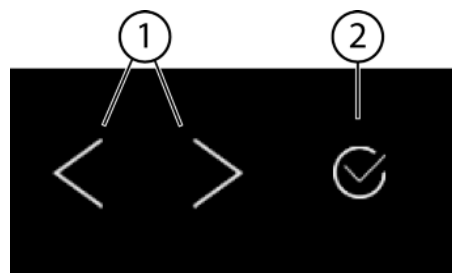
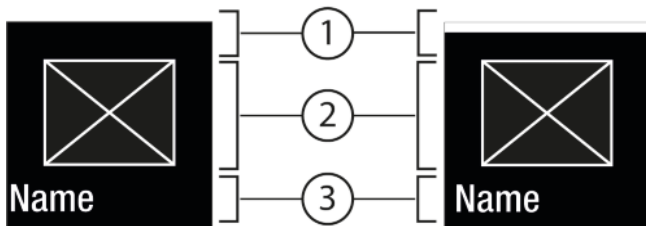
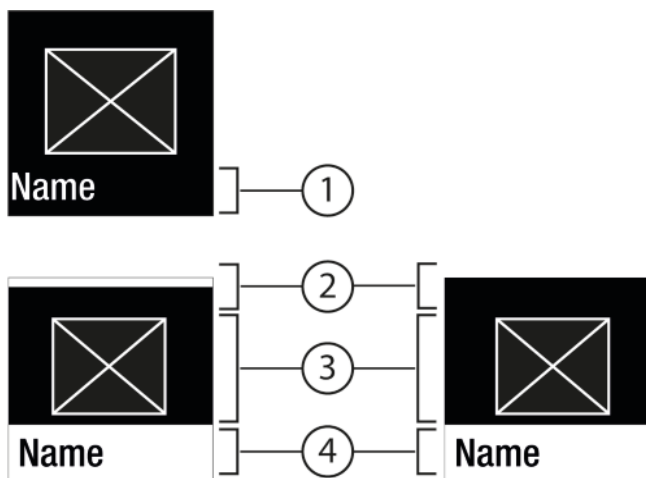

Fig. 5
Fig. 6
Fig. 7
(1) Left/right navigation arrow
(2) Confirm
Left/right navigation arrow Fig. 5 (1):
Confirm Fig. 5 (2):
- Navigate with the left/right navigation arrow *Fig. 5 (1)*.
- Press Confirm *Fig. 5 (2)* to activate *Fig. 6 (1)* / deactivate *Fig. 6 (1)* the function/setting.
- Press Confirm *Fig. 5 (2)* to go to the submenu *Fig. 7 (4)*.
- Set new level: Press Confirm *Fig. 5 (2)* to select a deselected value *Fig. 6 (1)*.
- Back to menu: Press Confirm *Fig. 5 (2)* to select the selected value *Fig. 6 (2)*.
- ▶ Press the navigation arrows *Fig. 5 (1)* until appears.
- ▶ Press Confirm *Fig. 5 (2)*.
- ▶ Press the navigation arrows *Fig. 5 (1)* until the function appears.
- ▶ Use the navigation arrows *Fig. 5 (1)* to select the setting value.
- ▶ Press *Fig. 5 (2)* confirm.
- ▷ Status: on *Fig. 6 (1)* appears briefly in the submenu *Fig. 7 (4)*.
- ▶ Press the navigation arrows *Fig. 5 (1)* until Settings  appears.
- ▶ Press the navigation arrows *Fig. 5 (1)* until you can see the setting you want.
- ▶ Press Confirm *Fig. 5 (2)* for 3 seconds.